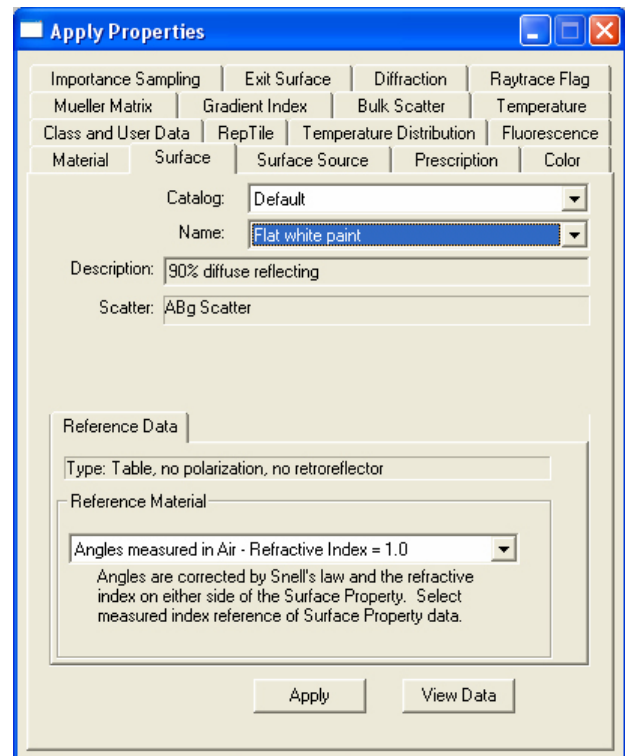

Figure 14. Apply properties for Diffuse White.
8. Enter the parameters as shown in Fig. 14,